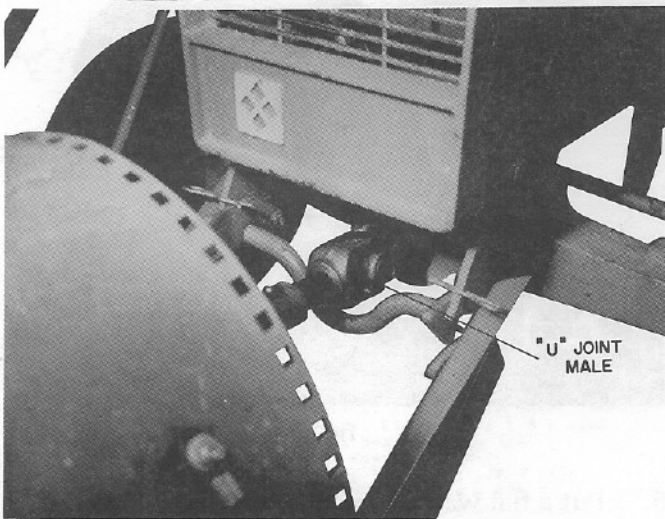

fig 6
9. Coat rectangular male "U" joint shaft with general purpose grease and slide it into female shaft, items 74 and 75. See fig 6.